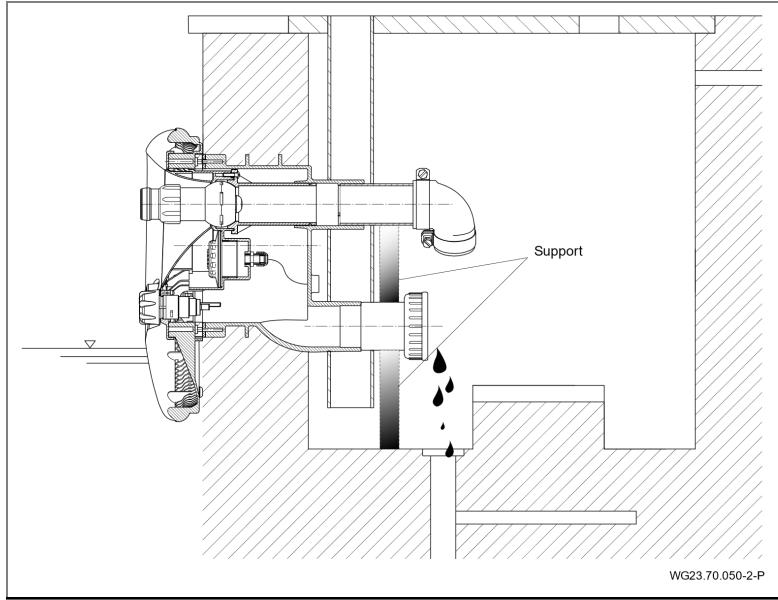

Fig. 29
- 3. Support the suction and pressure lines to relieve them. See "Fig. 29" on page 45.